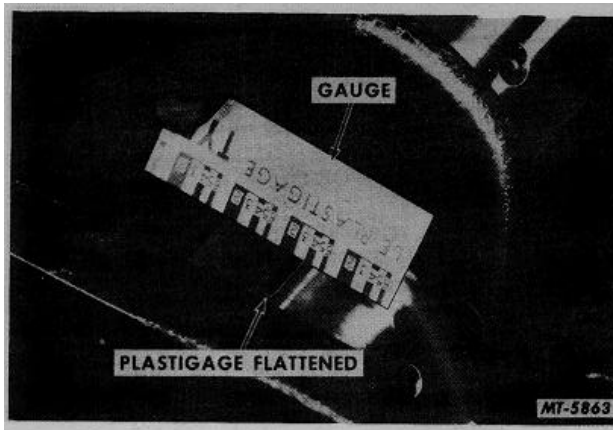

Fig. 119 Checking Main Bearing Clearance
5. Do not disturb Plastigage. Using Plastigage envelope, measure widest point of Plastigage (Fig. 119). This reading indicates bearing clearance in thousandths of an inch.